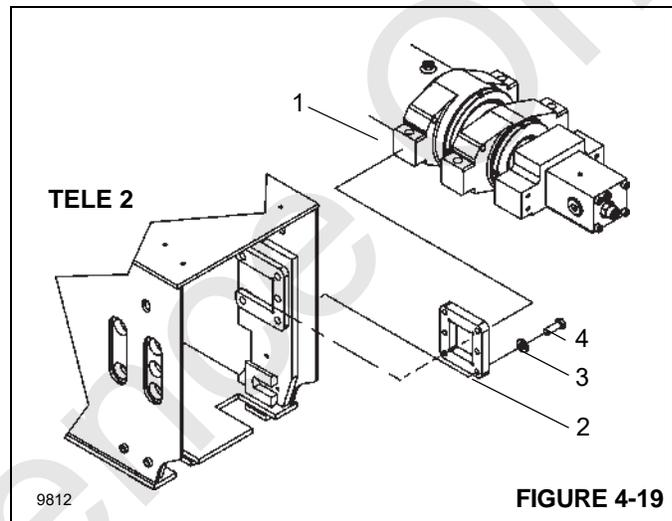

FIGURE 4-19
15. Install trunnions (2, Figure 4-19) loosely on telescope cylinder forward flanges (1). Support and install the telescope cylinder approximately 3 m (10 ft) into the base of the Tele 4 section boom. It may be necessary to raise and lower the outer end of the cylinder to insert the cylinder into the boom section. Push the Tele 4 section boom completely into the Tele 3 section boom and raise the telescope cylinder to top of Tele 2 section boom.
20. Lower the telescope cylinder as needed to align the trunnions (2, Figure 4-19) and mounting holes on the sides of the Tele 2 section boom. Install telescope cylinder in Tele 2 section boom using capscrews (4), washers (3) and trunnions (2). (See also 25, 26, 27 in Figure 4-14.)